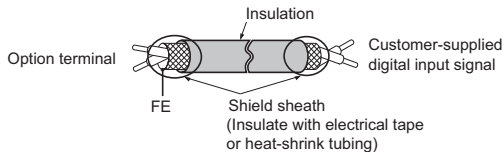

Figure 23 Prepare Ends of Shielded Cable
6. Prepare and connect the wire ends as shown in Figure 23 and Figure 24. Refer to Wire Gauges and Tightening Torques on page 38 to confirm that the proper tightening torque is applied to each terminal. Take particular precaution to ensure that each wire is properly connected and wire insulation is not accidentally pinched into electrical terminals.